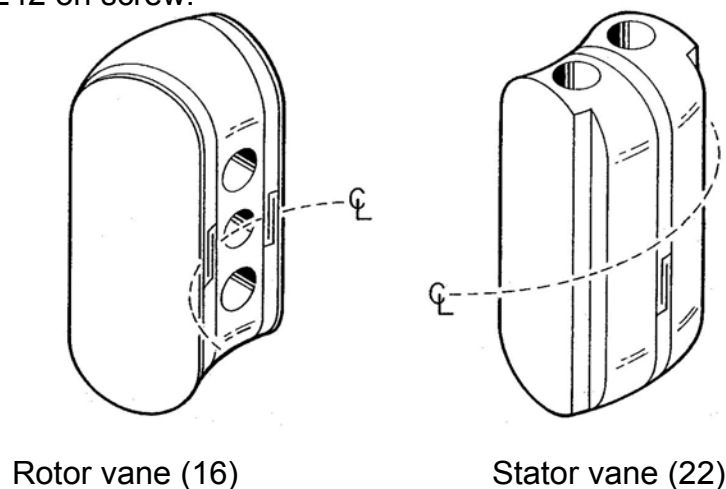

Figure 4-6 Location of expanding cut in seal
1. Install the 2 rotary shaft seals (10),(11) in outer grooves of both case halves (9),(24) *1 two-piece seal in each case half*. Install the 6 rotary shaft seals (12),(13) in the remaining seal grooves of both case halves *3 two-piece seals in each case half*. Place O-ring in the seal groove first, then fold seal ring inward on itself to form a "kidney" shape so it can be inserted through the bore and into the grooves. Release the seal ring allowing it to expand and fill the groove on top of the O-ring. Work seal into the groove and use fingers to remove any creases caused by bending. Make certain that both parts of the seal are installed in a seal groove and not a fluid passage. It is hard to see the O-ring once installed in the groove so be systematic about installing the seals.
2. Place O-rings (20) in grooves of vanes (16),(22). Install seals (19) into groove of vanes. Expanding cut in the seals must be positioned as shown in Figure 4-6 and Figure 4-7. Attach vane (16) to shaft (21) using dowel pins (17) and screw (18). Use Loctite 242 on screw.